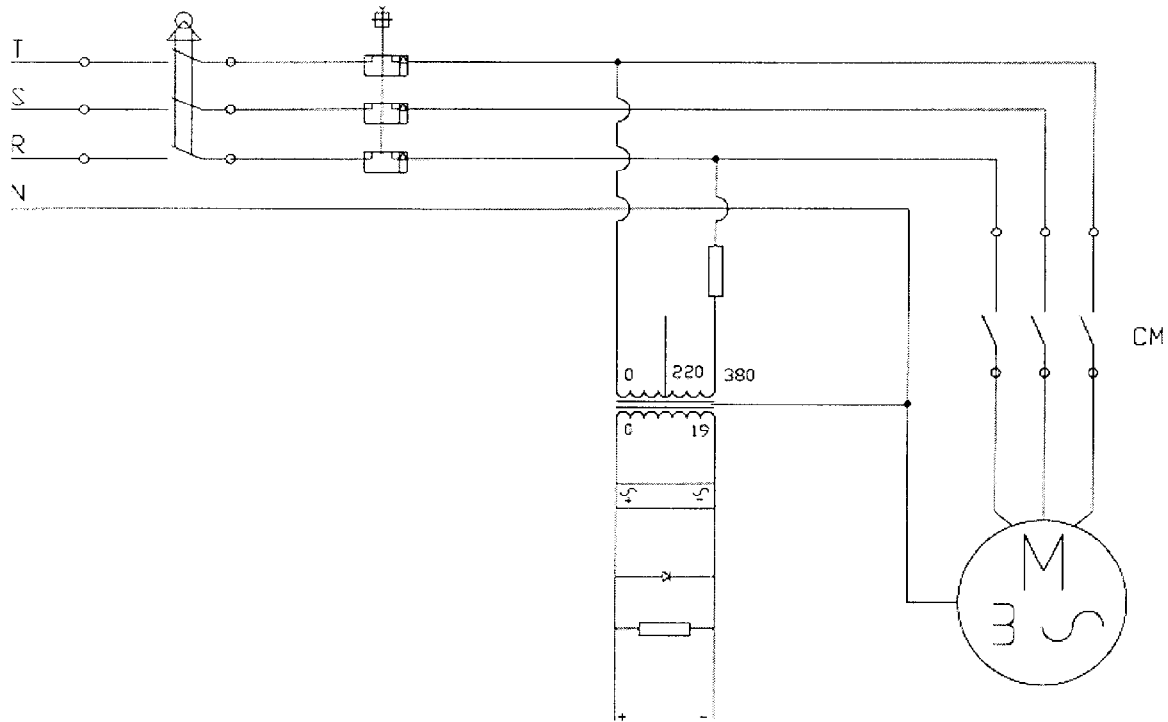

Fig. 4: Electrical Diagram
- Connect a power cord to the control desk as shown in **Fig. 4**, the electrical diagram.